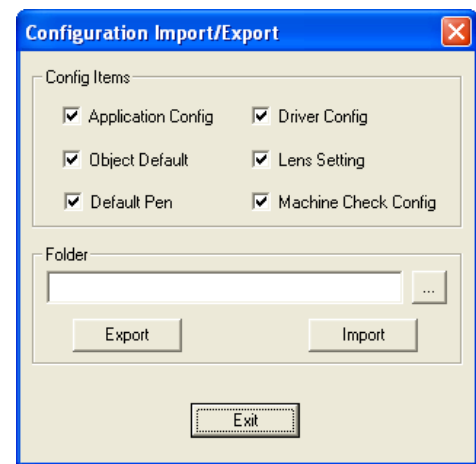

Fig. 1.1.37
1. Click on “File”→ “Configuration Import/Export” to bring out dialog seen as fig. 1.1.37.